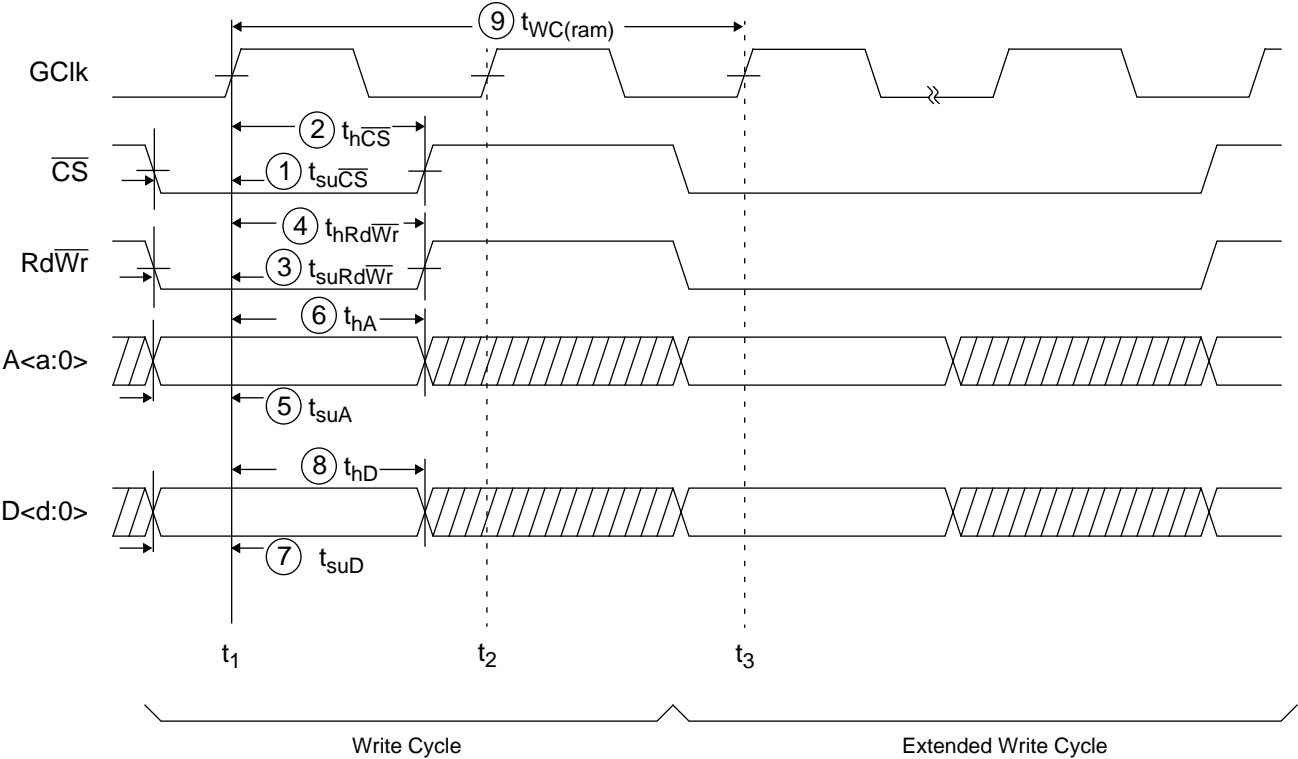

Figure 30. Configuration Memory Write Cycles
5. After a modification to any of the Map Register bits, it is not safe to perform register writes or reads for T_{MPST} . This is measured from the first falling clock edge of the Map Register Write Cycle to the **second** rising clock edge of the next register access (t_2 in Figures 30 and 31).